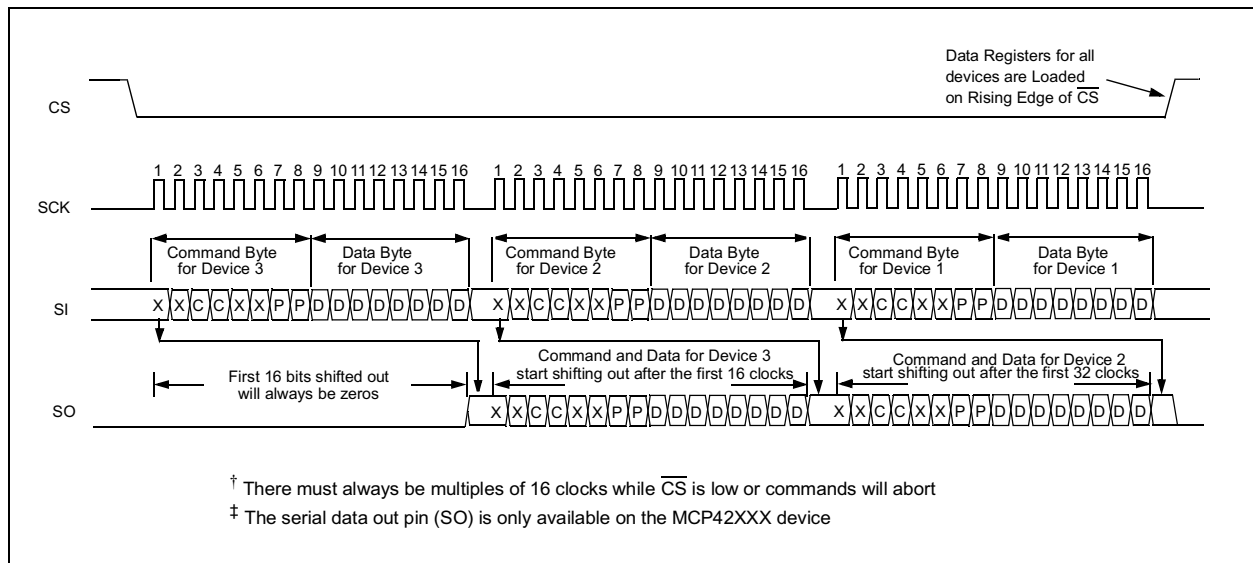
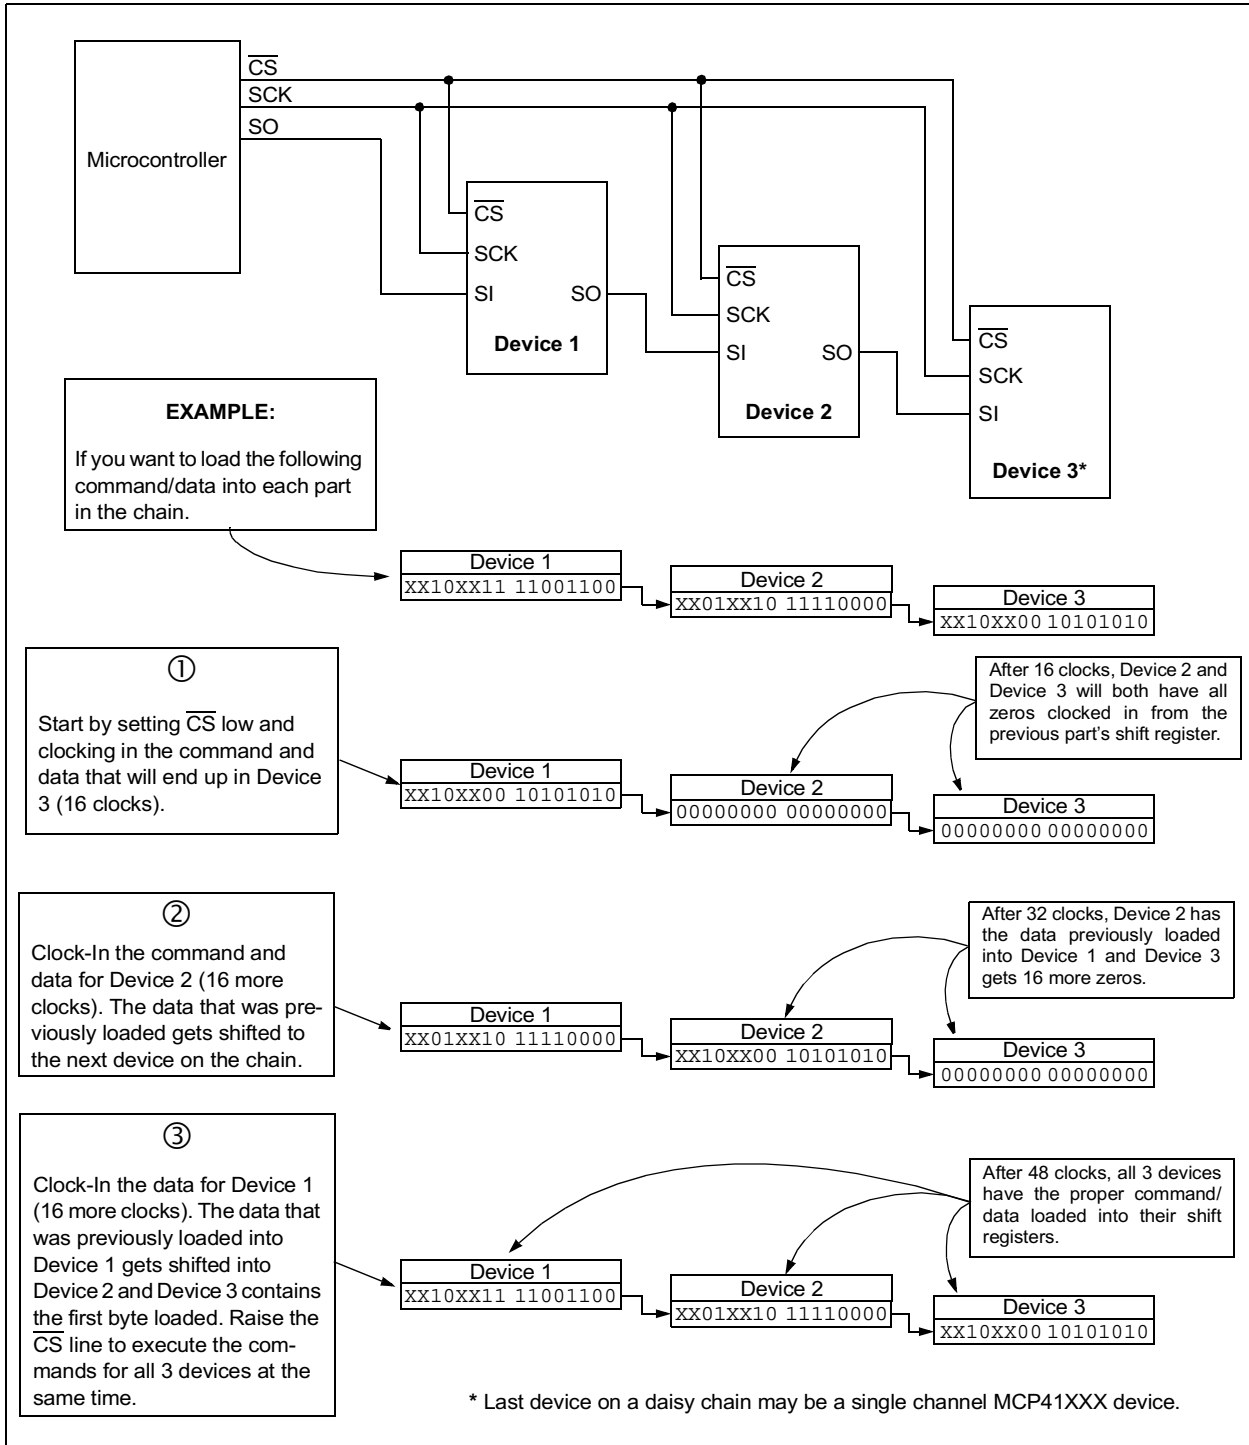

Figure 5-3: Timing Diagram for Daisy-Chain Configuration
Figure 5-4: Daisy-Chain Configuration
Multiple MCP42XXX devices can be connected in a daisy-chain configuration as shown in Figure 5-4, by connecting the SO pin from one device to the SI pin on the next device. The data on the SO pin is the output of the 16-bit shift register. The daisy-chain configuration allows the system designer to communicate with several devices without using a separate CS line for each device. The example shows a daisy chain configuration with three devices, although any number of devices (with or without the same resistor values) can be configured this way. While it is not possible to use a MCP41XXX at the beginning or middle of a daisy-chain because it does not provide the serial data out (SO) pin, it is possible to use the device at the end of a chain. As shown in the timing diagram in Figure 5-3, data will be clocked out of the SO pin on the falling edge of the clock. The SO pin has a CMOS push-pull output and will drive low when \overline{CS} goes high. SO will not go to a high impedance state when \overline{CS} is held high.